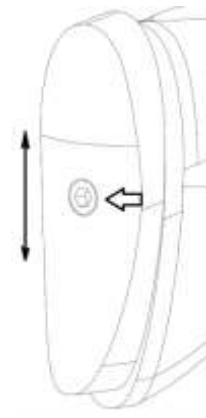

Fig.11
- Loosen the socket head screws situated on the back of the butt stock (Fig.11)